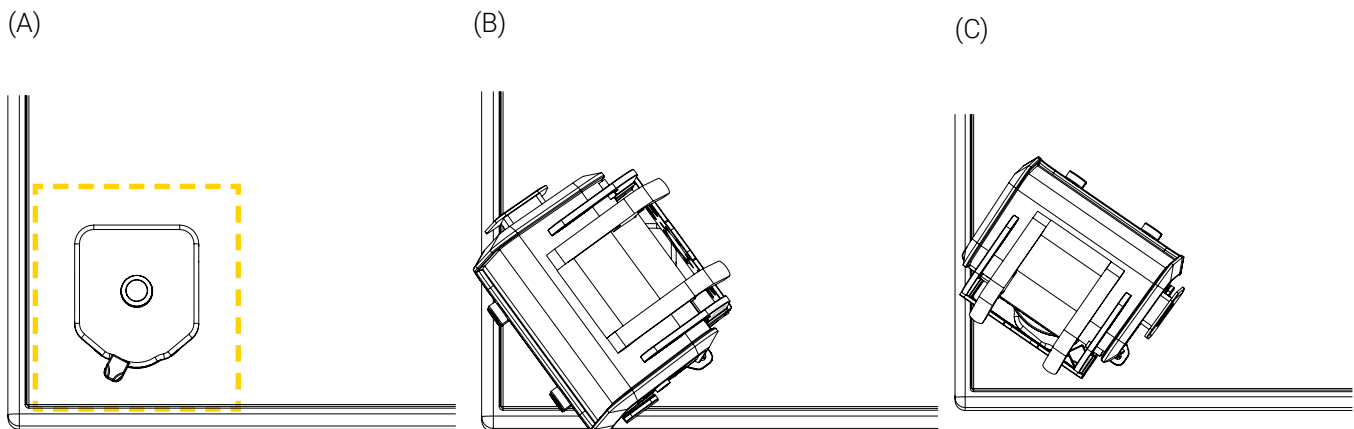

Figure 13: Perimeter clearance
2. Ensure the area of installation is large enough to rotate the mounting bracket and medical device up to 360° clockwise or counterclockwise when they are installed on the Universal Mounting Base (Figure 13). The clearance needed will depend on the size of the medical device and its mounting bracket, where the mounting system is positioned and its surroundings.